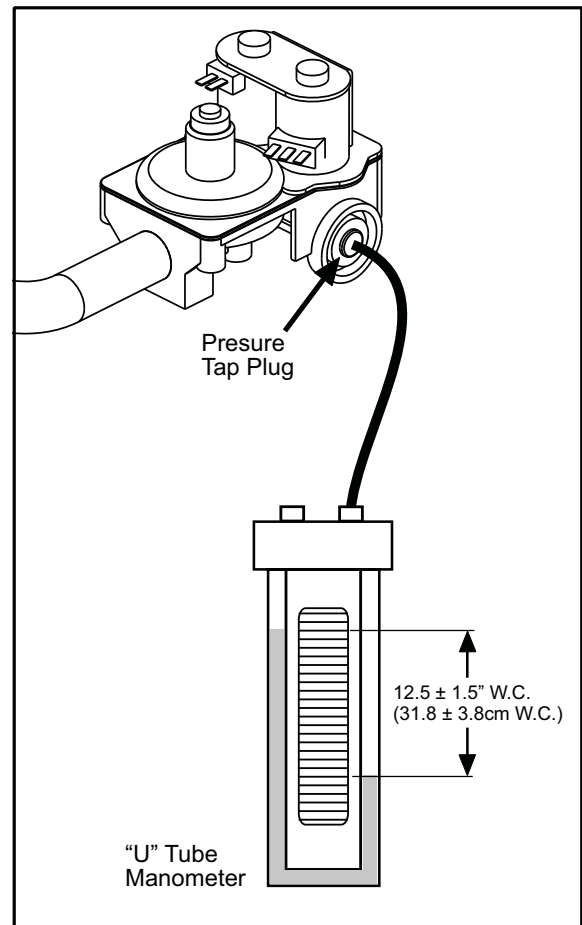

Figure 6
16. Remove the pressure tap plug from the gas valve body (Figure 6) and install a pressure tap fitting finger tight.